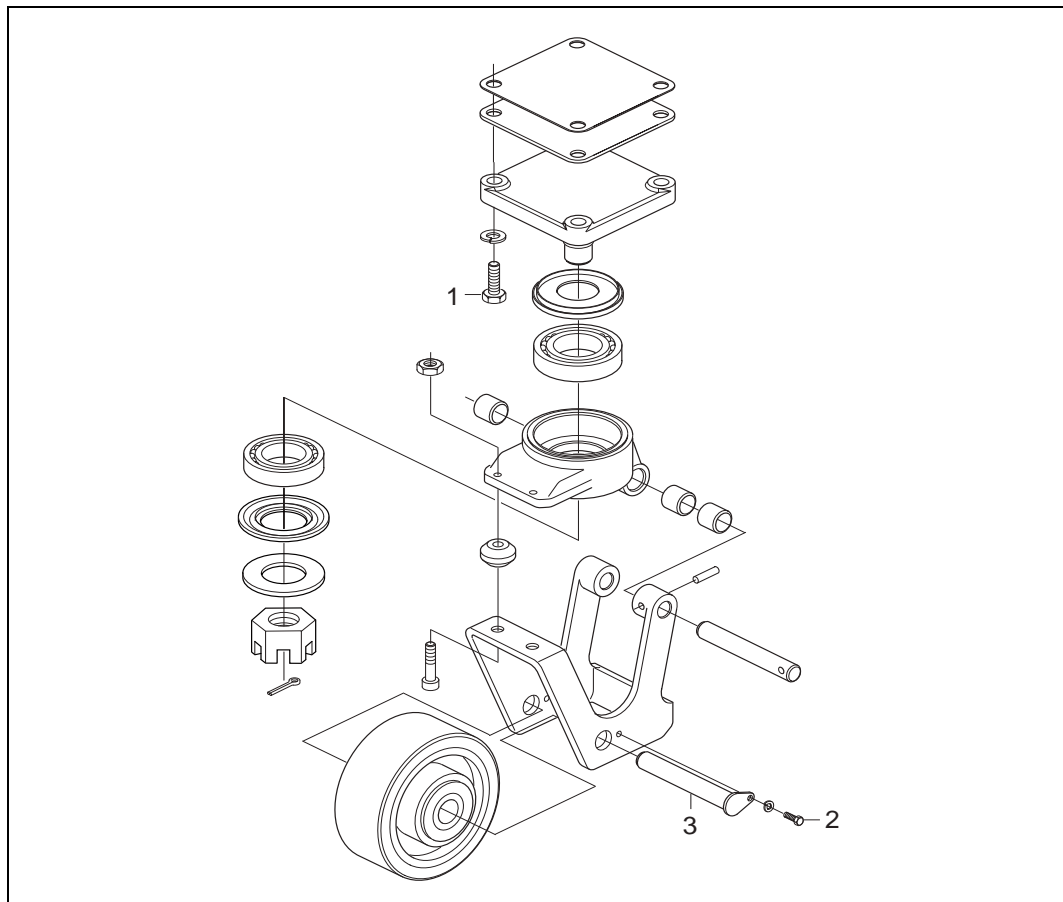

Figure 4.3 Castor wheel PLL/PSD
- Loosen the bolts, pos. 1 figure4.3.
- Loosen the bolt, pos. 2, and drive out the wheel axle, pos. 3, so that the wheel can be removed from the fork.